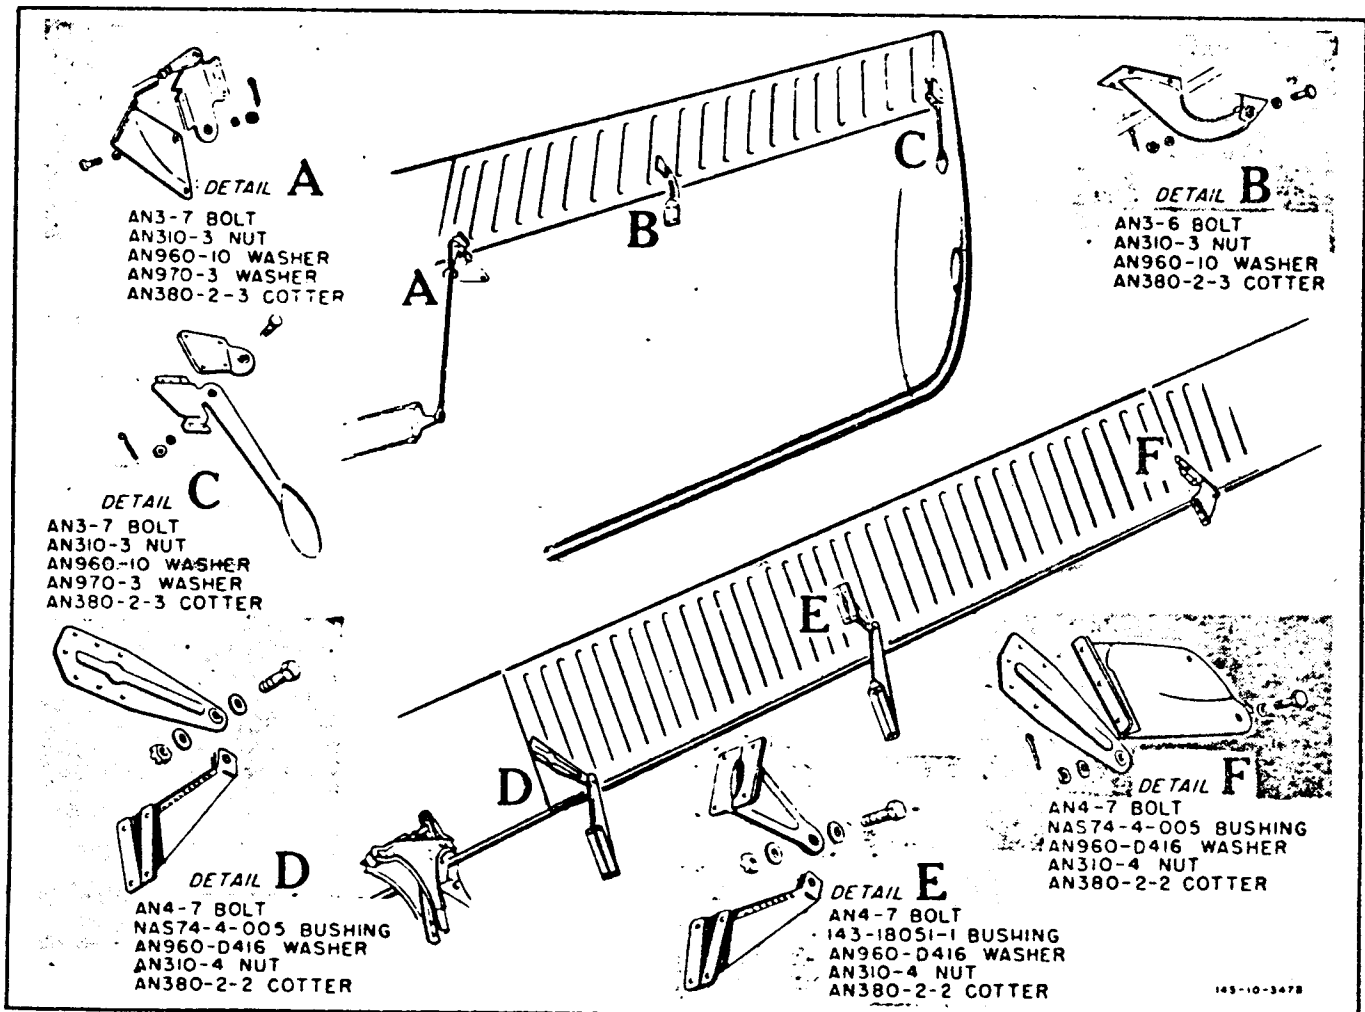

Figure 13 - WING FLAP AND AILERON INSTALLATION
**Installing and Removing Ailerons**—The parts necessary to attach or detach the ailerons are shown in figure 13.
**Installing and Removing Wing Flaps**—The parts necessary to attach or detach the wing flaps are shown in figure 13.